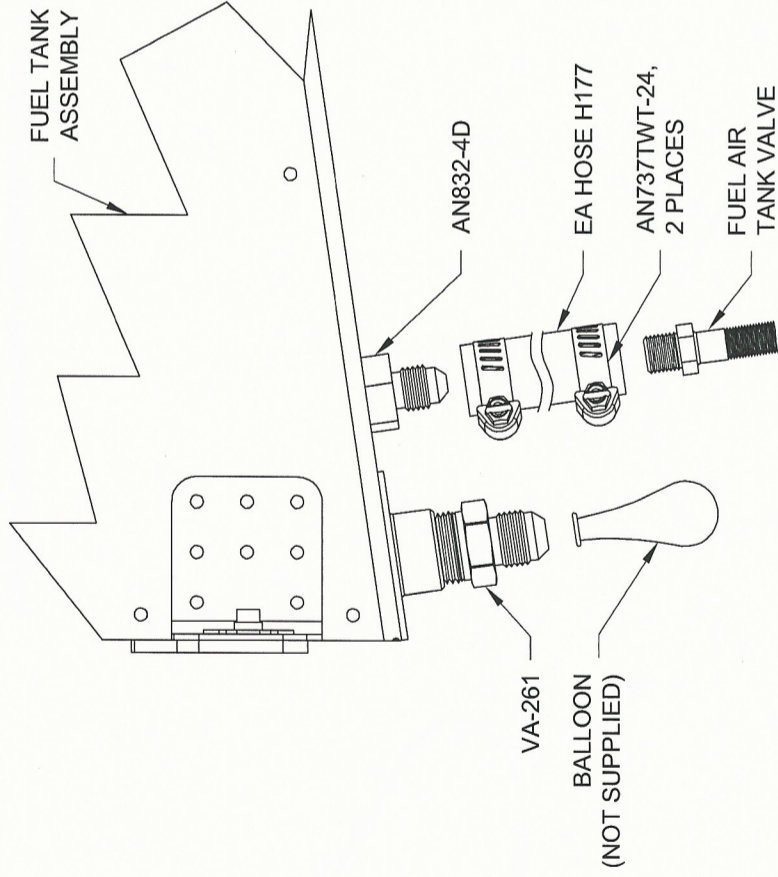
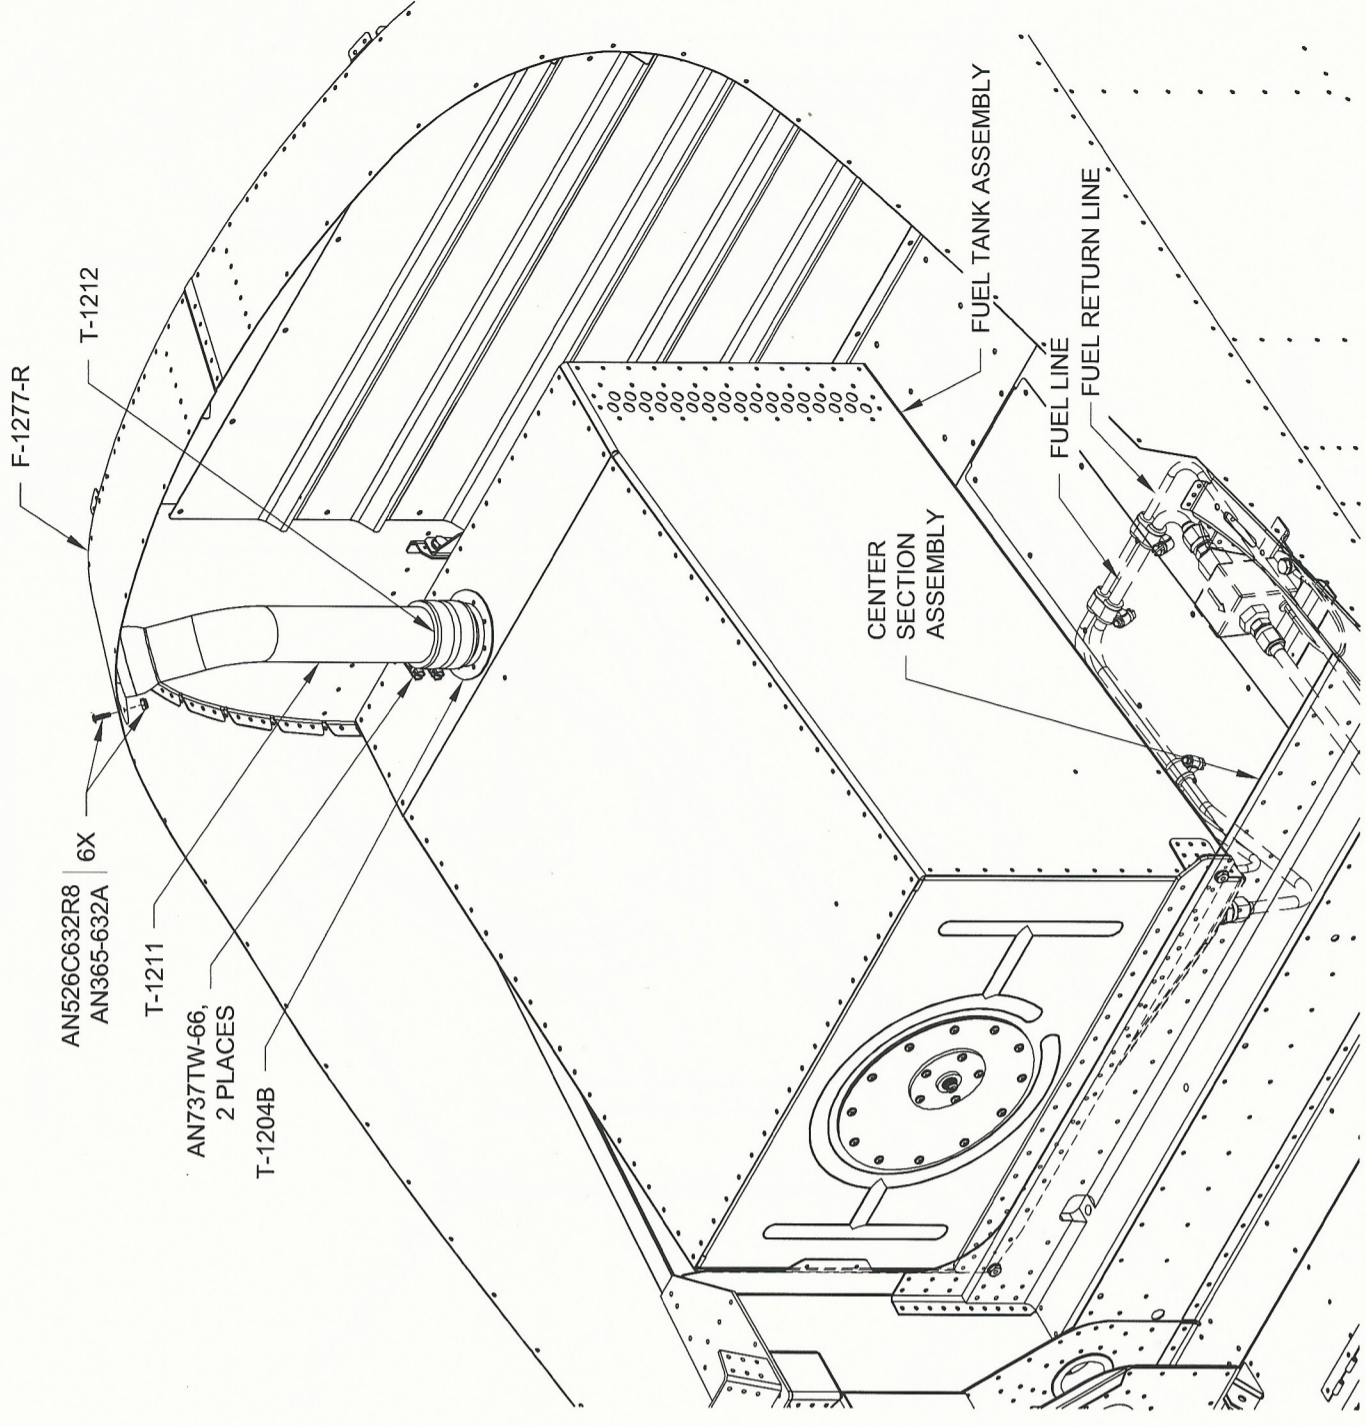

FIGURE 1: LEAK TEST
FIGURE 3: INSTALLING THE FUEL TANK
Step 1: Temporarily attach the T-1211 Fuel Neck to the Fuel Tank Assembly using the T-1212 Collar and hose clamps. Install the T-406A Fuel Cap. Attach the air valve (from the FUEL TANK TEST KIT) to the AN832-4D bulkhead fitting using the hose clamps and hose called out in Figure 1. Securely attach a balloon (or equivalent) to the VA-261 Fuel Strainer.
Step 5: Reinstall the Fuel Tank Assembly using hardware called out on Page 37-06, Figure 1. Connect the fuel line and fuel return line at this time. Slide the T-1212 Fuel Neck Collar onto the T-1211 Fuel Neck Flange. Apply a sparing amount of release agent (oil, Boelube, or similar) on the inside surface of the F-1277-R Fwd Turtle Deck Skin where the fuel neck flange will attach. Smear fuel tank sealant on the face of the fuel neck flange that will abut the fwd turtle deck skin. Fasten the fuel neck to the fwd turtle deck skin using hardware called out in Figure 3. Avoid distorting the fwd turtle deck skin by tightening fasteners only enough to cause sealant to bulge evenly from underneath the perimeter of the fuel neck flange. Slide the fuel neck collar down and clamp it to the fuel neck flange and T-1204B Flange.